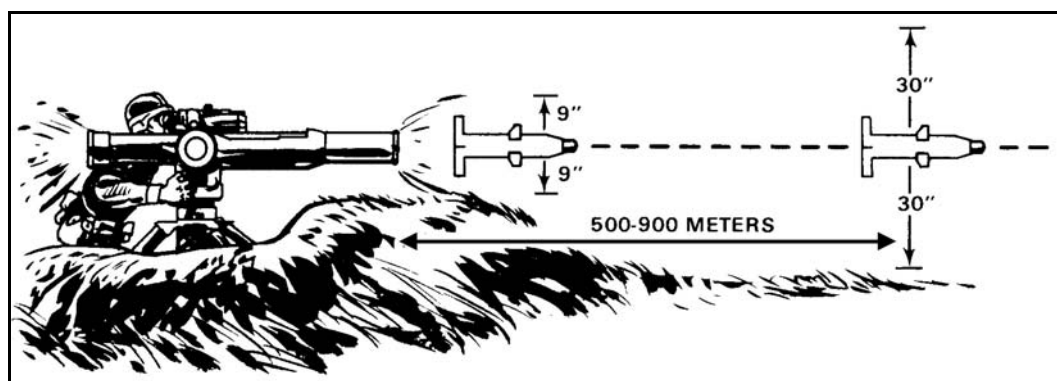

Figure D-10. Ground clearance
b. The missile's launch motor pushes the missile out of the tube. The missile's flight motor then accelerates the missile for 500 to 900 meters to obtain its flight speed. Somewhere between these distances, the missile's trajectory drops. A missile also does not precisely follow a gunner's LOS to the target. To compensate for this and to prevent the missile from hitting the ground or an obstruction, the gunner allows 30 inches of clearance along the LOS between the launcher and the ground (Figure D-10). If the LOS clearance is less than 30 inches, the probability of the missile hitting the ground or an obstruction is increased. Table D-1, page D-12, highlights the probability of survival for the TOW missile.